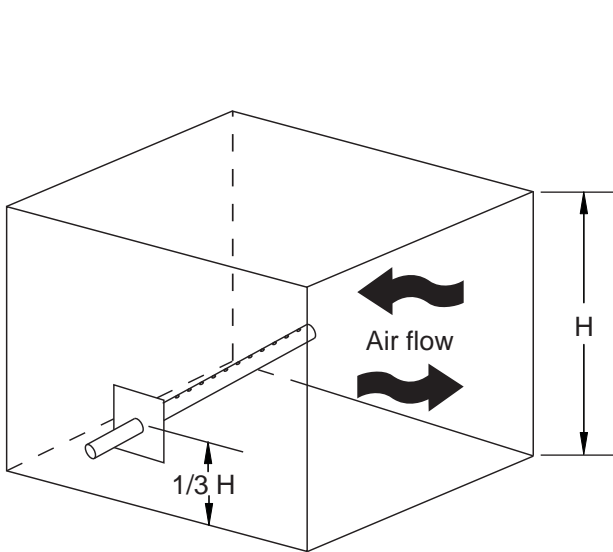
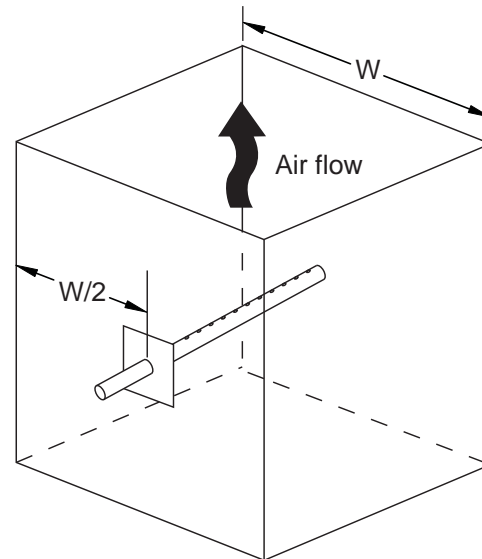

Fig. 14a HORIZONTAL DUCT
Fig. 14b VERTICAL DUCT
14.1 Proper installation of the diffuser and steam hose is critical for the trouble-free operation of the humidifier. Please find an accessible location on the duct and make sure you have a **minimum length of 35"** of straight duct downstream (without elbows or other obstructions on which the steam could condensate), to allow the steam to disperse easily into the airflow. Once a suitable location has been found make a 1 1/8" middle insertion hole in the warm air duct for the steam diffuser. For a horizontal duct, make the 1 1/8" hole in the lower third of the duct height. Please see Fig. 14a. For a vertical duct, make the 1 1/8" hole in the middle of the duct. Please see Fig. 14b.